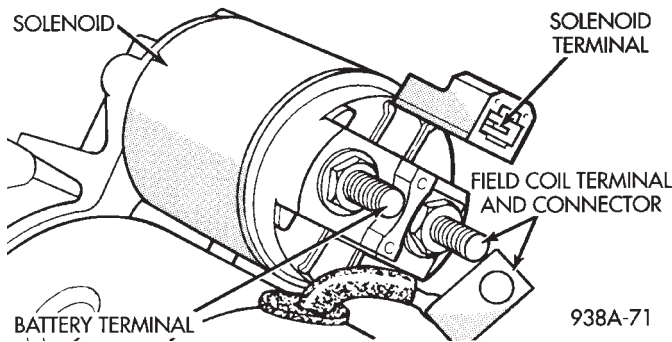

**Fig. 15 Field Coil Wire Terminal—Melco**
(1) Disconnect field coil wire from field coil terminal (Fig. 15 or 16).